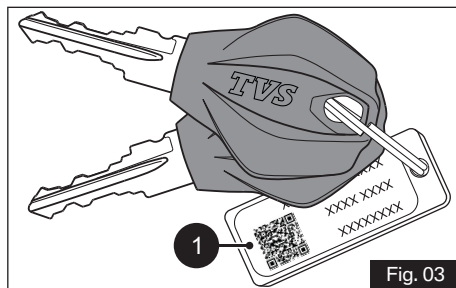

Fig. 03
A sticker ID (1) attached with keys has the identification number of keys. Please note down the identification number below for future reference. (ref. Fig. 03)